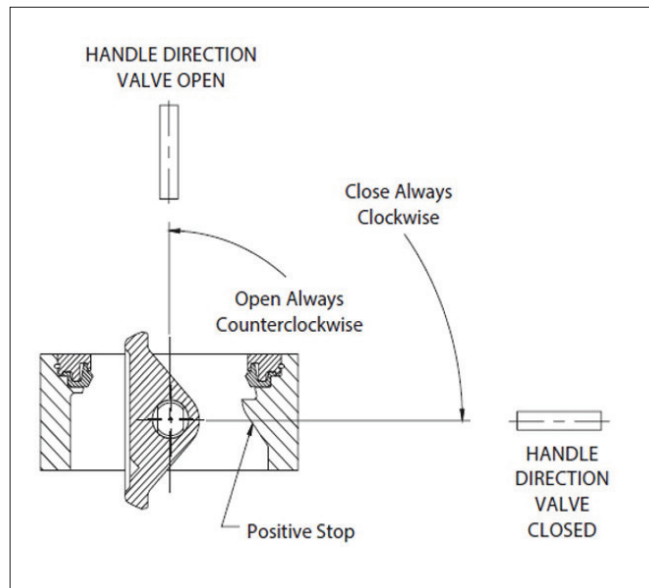

Fig. 1 Wafer-Sphere sealing principle/Positive Stop Feature
One of the design features of the Wafer-Sphere valve that is responsible for its superior performance is the valve's offset shaft design. The shaft is offset in two planes: (1) away from the valve disc centerline and (2) behind the disc sealing plane (See Figure 1). Offset shaft design makes the rotating disc "cam" back and away from the seat, completely eliminating the usual wear points at the top and bottom of the seat. Because the disc rotates off the seat in an eccentric arc, it operates in one quadrant only (See Figure 1).
To prevent seat damage from over-travel of the disc beyond the closed position (usually during field mounting of a handle or actuator), a "positive stop" feature has been designed into the valve. The location of this feature is shown in (Figure 1).